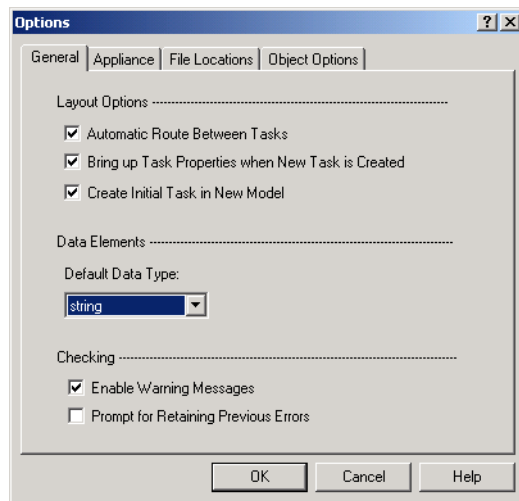

Figure 28-3. General Process Options dialog.
- ❶ From the **Tools** menu, click **Options**.
- ❷ Make sure you select the following checkboxes in the Layout Options screen area:
- ❸ Since the data elements we will create in this tutorial are usually strings, select a default data type of **String**. Compare your work to Figure 28-3 below. Leave all other settings the way they are.
- ❹ Click **OK**.